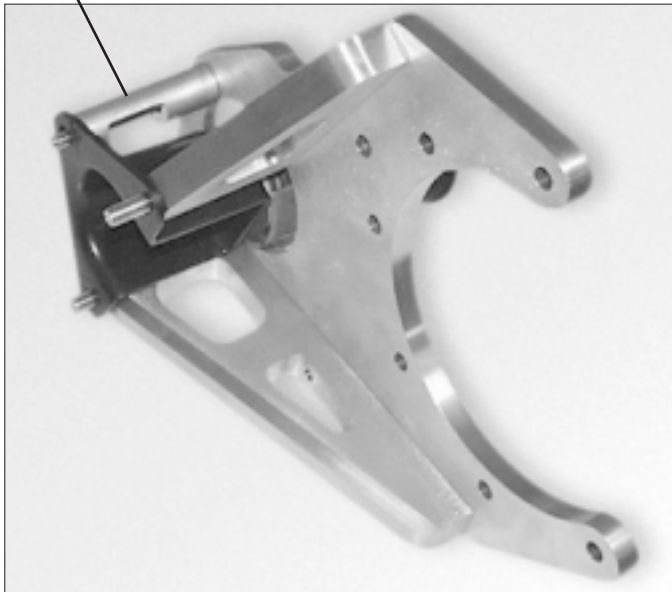

Fig. 4-a
- C. Mount the bracket in the holes at the stock accessory belt tensioner location. Remove the two countersunk allen head bolts and lower this arm to gain access to the dip-stick bolt. (See Fig. 4-b.)